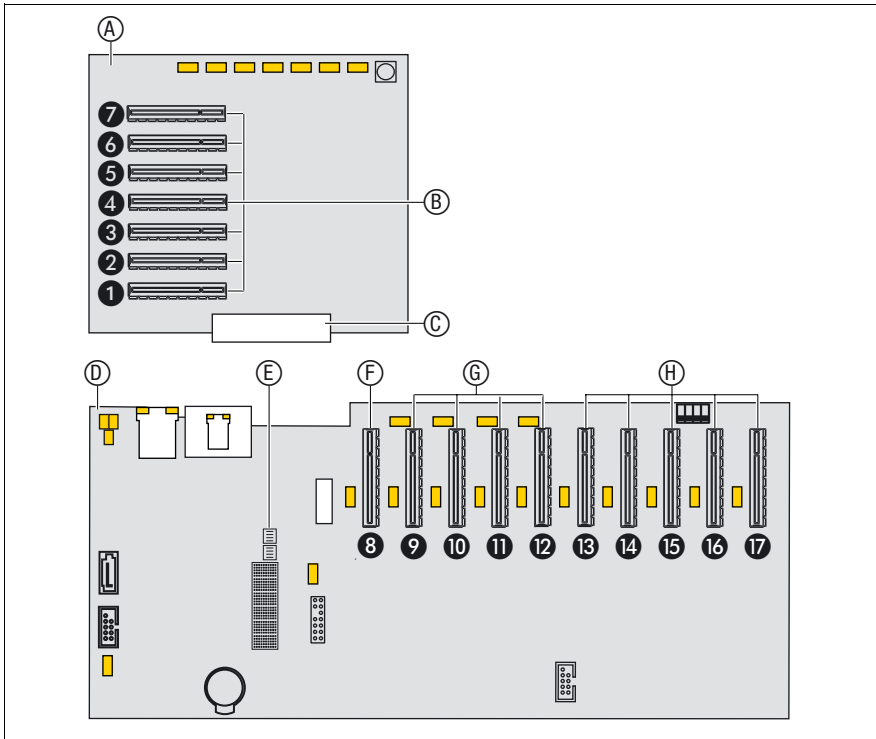

Figure 52: PCIe slot assignment
Figure 52 shows the PCIe slot configuration. Expansion cards can be installed in the PCIe slots on the PCI Riser (A) and on the baseboard (D). The PCI Riser is connected to the baseboard via the connectors C and E.